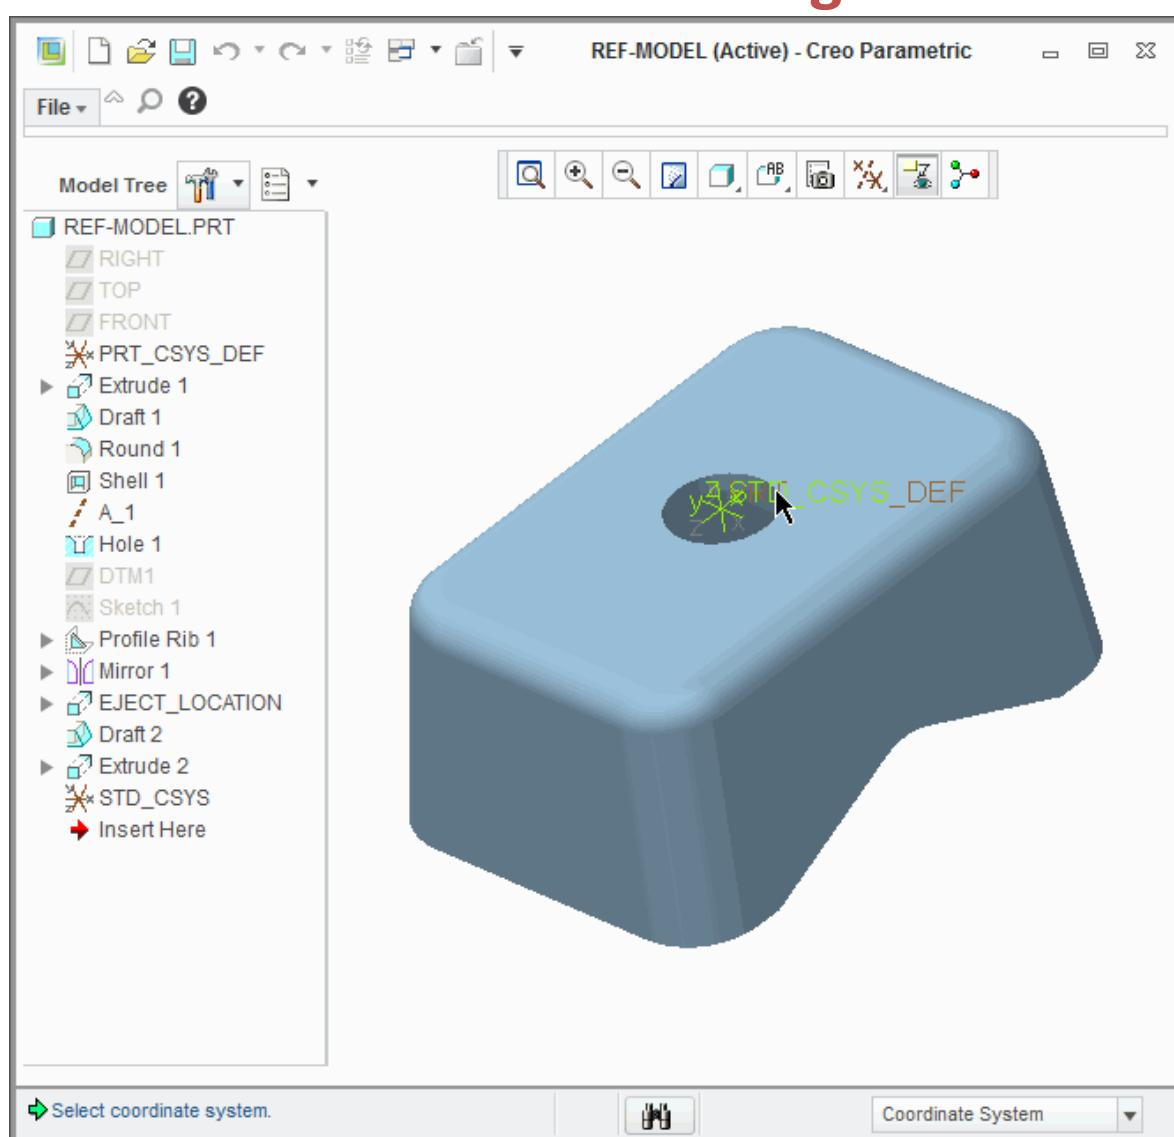

Figure 1 – Using Standard Orientation
- Standard – Enables you to select a different, existing, coordinate system in the reference model. A separate window opens that contains the reference model, enabling you to select the coordinate system, as shown in Figure 1.